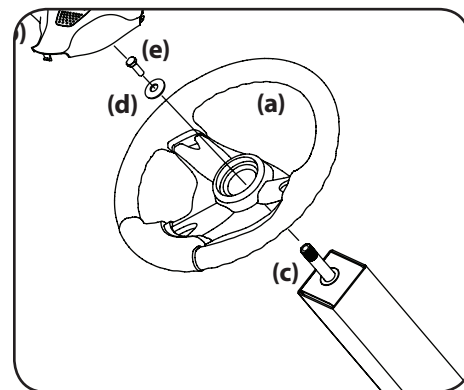

Figure 2-3
1. Remove the hardware for attaching the steering wheel (a) from beneath the steering wheel cover (b). Carefully pry off the steering wheel cover (b) to remove the hardware. See Figure 2-3.
2. With the wheels of the tractor pointing straight forward, place the steering wheel (a) over the steering shaft (c). See Figure 2-3.
3. Place the Belleville washer (d) over the steering wheel (a) and secure with the hex screw (e). See Figure 2-3.
4. Place the steering wheel cover (b) over the center of the steering wheel (a) and push downward until it "clicks" into place. See Figure 2-3.